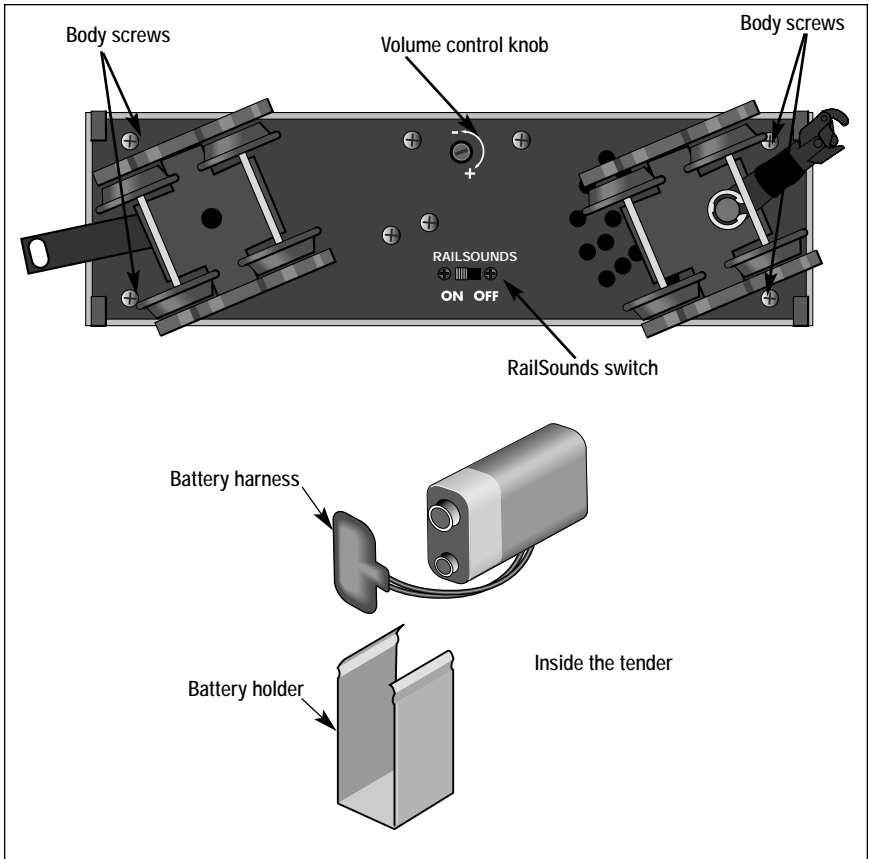

Figure 3. RailSounds controls and battery installation
While the RailSounds sound system is powered through the track, we recommend that you install a nine-volt alkaline battery in the tender to prevent the sound system from shutting down during track power interruptions (for example, at a switch or a dirty section of track). Follow these steps and refer to Figure 3 on page 10 as you install the battery.
1. Remove the body screws from the underside of the tender. Refer to Figure 3 on page 10 for the location of the screws.